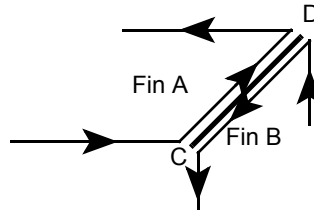

Figure 1–5 Fin and edge direction
- As can be seen from Figure 1–5 when fin A is the left fin of the edge the direction of the edge and any attached curve is from C to D. If the curve direction was reversed, the faces on each side of the edge would become inconsistent.